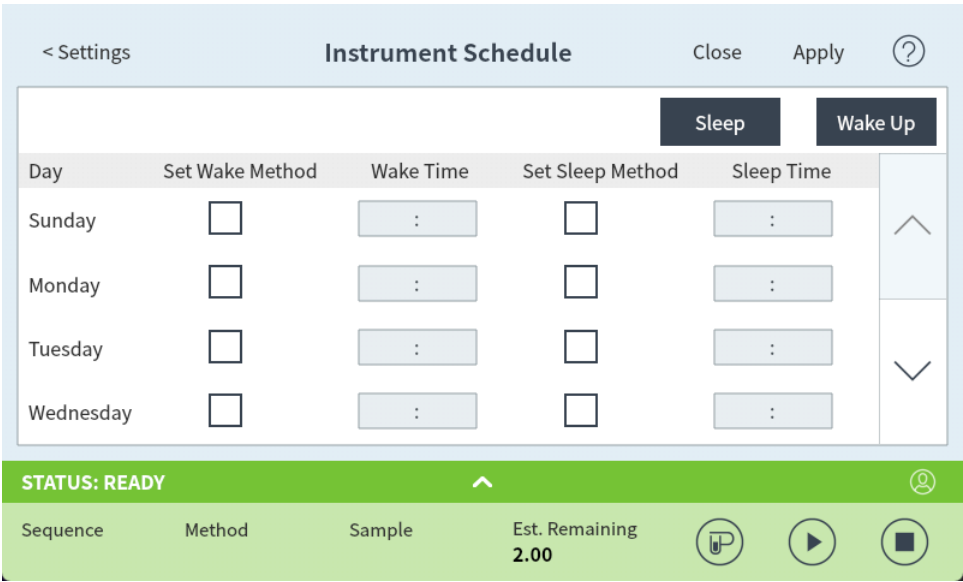

Figure 72. Instrument Schedule page
- 1. Select **Scheduler**. The Instrument Schedule page appears. See **Figure 72**.